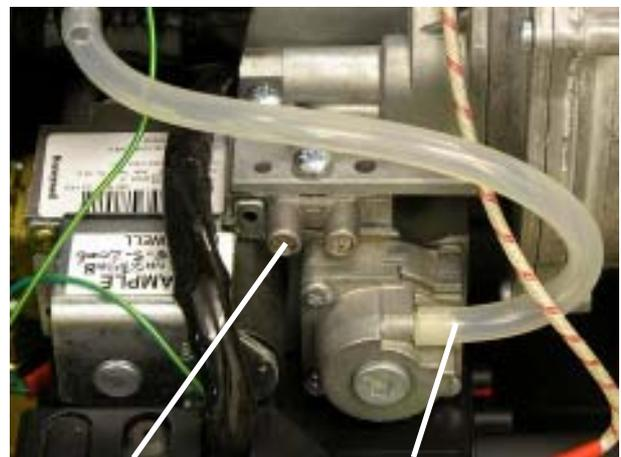

Fig. 6.0
1. With the Gas and Electrical supply off, undo the three screws that hold the Venturi to the Gas Valve. (See Fig.6.0)
8. Replace the Sealing Cover over the Throttle. (See Fig 6.0 and Datable inside cover)